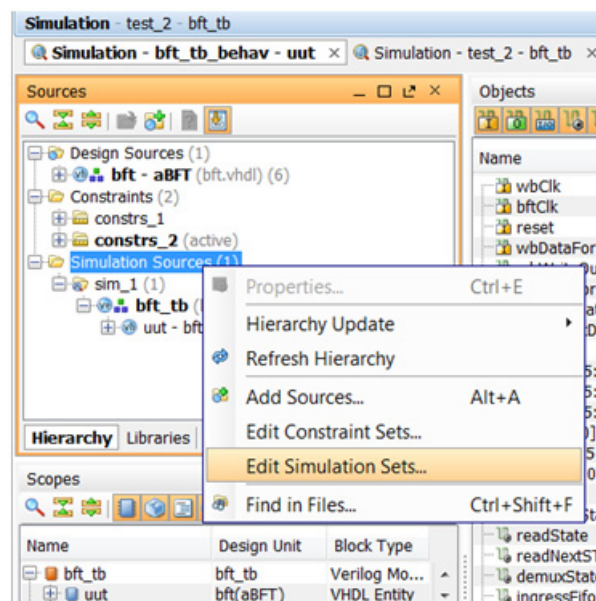

Figure 3-6: Edit Simulation Sets Option
1. In the Sources window popup menu, select **Simulation Sources > Edit Simulation Sets**, as shown in Figure 3-6.